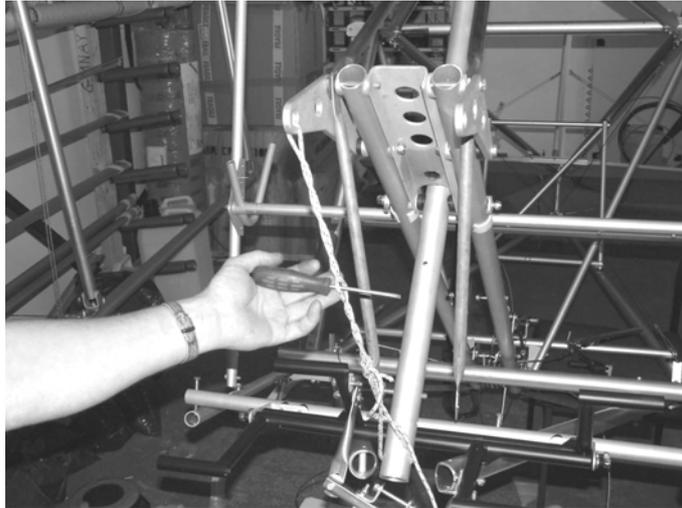

Figure 38; twisted rope used to pull down on engine mount.
*It may be necessary to apply some weight to the engine mount to fit the bolt holding the lower triangulation tubes **tu23** to the front vertical tube, or to use a twisted rope as shown in Figure 38.*
*It may be necessary to apply some weight to the engine mount to fit the bolt holding the lower triangulation tubes **tu23** to the front vertical tube, or to use a twisted rope in a similar manner to that shown in Figure 38.*